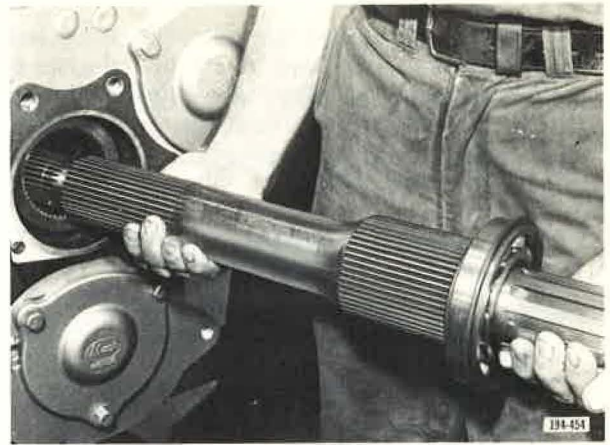

Figure 35. Installing Mainshaft
18. Start mainshaft in case through gear bearing opening. See Figure 35. Advance shaft through reverse speed gear, second and third speed sliding clutch and fourth speed gear until rear bearing positioning snap ring seats against case. Install speedometer drive gear on shaft. Apply sealer compound and install rear bearing cover gasket and cover. Install cover capscrews and tighten to recommended torque. Oil lip of cover oil seal, and install clamp plate and screw.